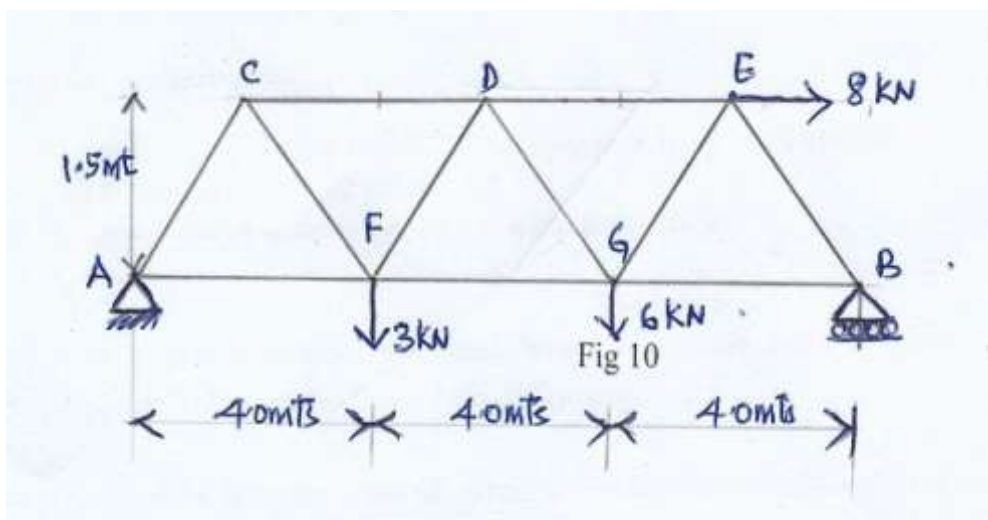

Fig. 10
10. Determine the force in each member by method of joints, mention the nature of force in each for the truss shown in fig. 10. 20